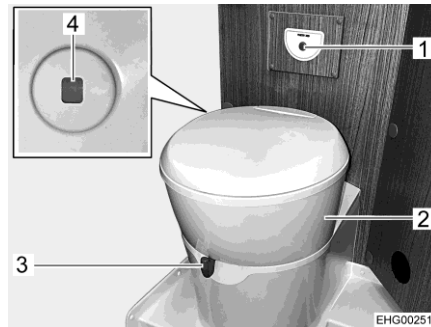

Fig. 96 Toilet
The toilet bowl can be rotated into the required position. In order to do this, grab the toilet's upper part (Fig. 96,2) with both hands and rotate it.
The operating unit with the flush button (Fig. 96,1) is installed near to the toilet bowl.
- Before flushing open the sliding trap of the toilet. To do this, push the slide lever (Fig. 96,3) in an anticlockwise direction.
- For flushing, press the blue flush button (Fig. 96,1).
The colour of the level indicator (Fig. 96,4) changes from green to red whenever the sewage tank has to be emptied.